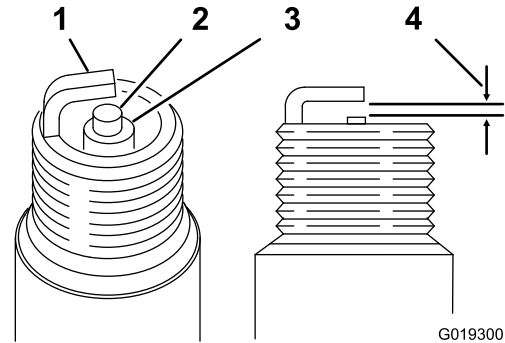

Figure 27
1. Look at the center of the spark plug (Figure 27). If you see light brown or gray on the insulator, the engine is operating properly.
2. Use a gapping tool for spark plugs or a feeler gauge to measure the gap between the side electrode and center electrode (Figure 27).